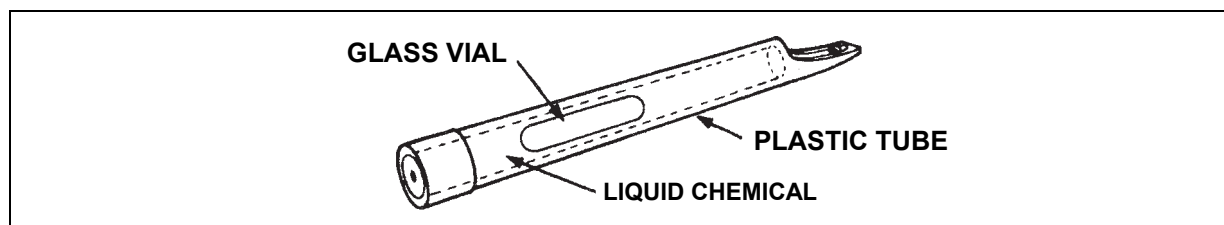

Figure 4-13. Chemlight Stick
- **Lights.** Beacon (bean bag) lights are used for both the inverted "Y" and "T" light formations. If beacon lights are unavailable, several alternate methods can be used to mark the landing site. Cyalume light sticks (commonly referred to as chemlights) are often used to mark the landing site. These lights (figure 4-13) are plastic tubes filled with a liquid chemical and a glass vial inside containing another chemical. When the glass vial is broken (by squeezing the plastic tube), a chemical reaction between the two liquids produces a glowing light. Depending upon the size of the tube, the glow lasts from 30 minutes to 12 hours. The chemlights can be taped or